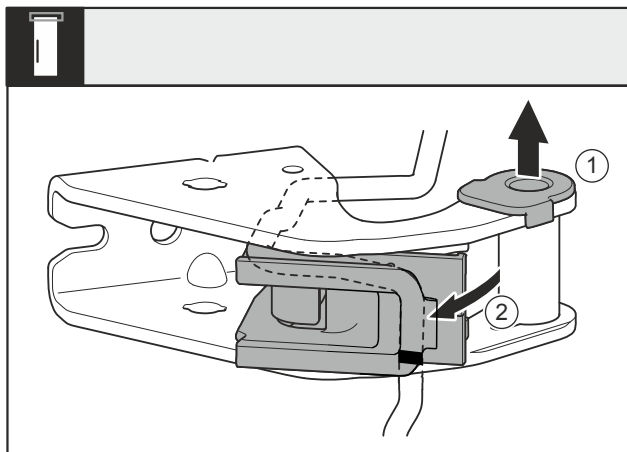

Fig. 26
- Pull the bearing bush Fig. 26 (1) out of the guide.
- Swivel the cable holder Fig. 26 (2) out.